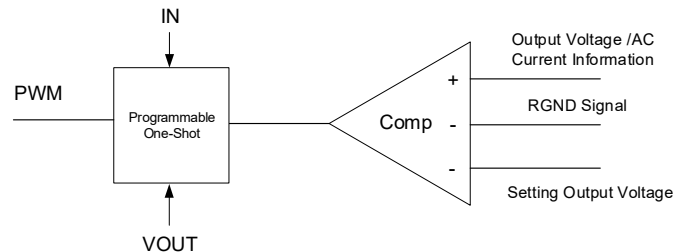

Figure 4. Simplified Control Schematic
The simplified control schematic is shown in Figure 4. The high-side switch on-time is determined solely by a one-shot whose pulse width is inversely proportional to input voltage (IN). The one-shot is triggered when the internal setting output voltage is higher than the combined information of output voltage and the AC current information of inductor and load line signal, which is processed and obtained through the sensed low-side MOSFET current once it turns-on. The added AC current information can help the stability of constant-on time control even with pure ceramic output capacitors, which have very low ESR. The AC current information has no DC offset, which does not cause offset with output load change, which is fundamentally different from other  $V^2$  constant-on time control schemes.